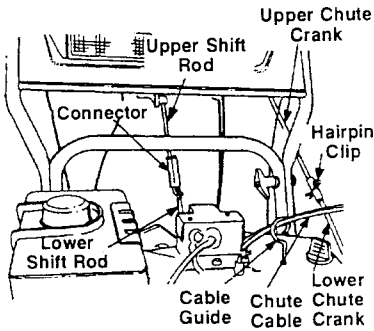

FIGURE 11
- Slide the shift rod connector (Z) over the threaded end of the upper shift rod and guide down to secure upper and lower shift rods. See figure 11. Tap the connector until it locks on the lower shift rod.
- Insert the optional remote chute cables into the cable guide, located on top of the engine. See figure 11.